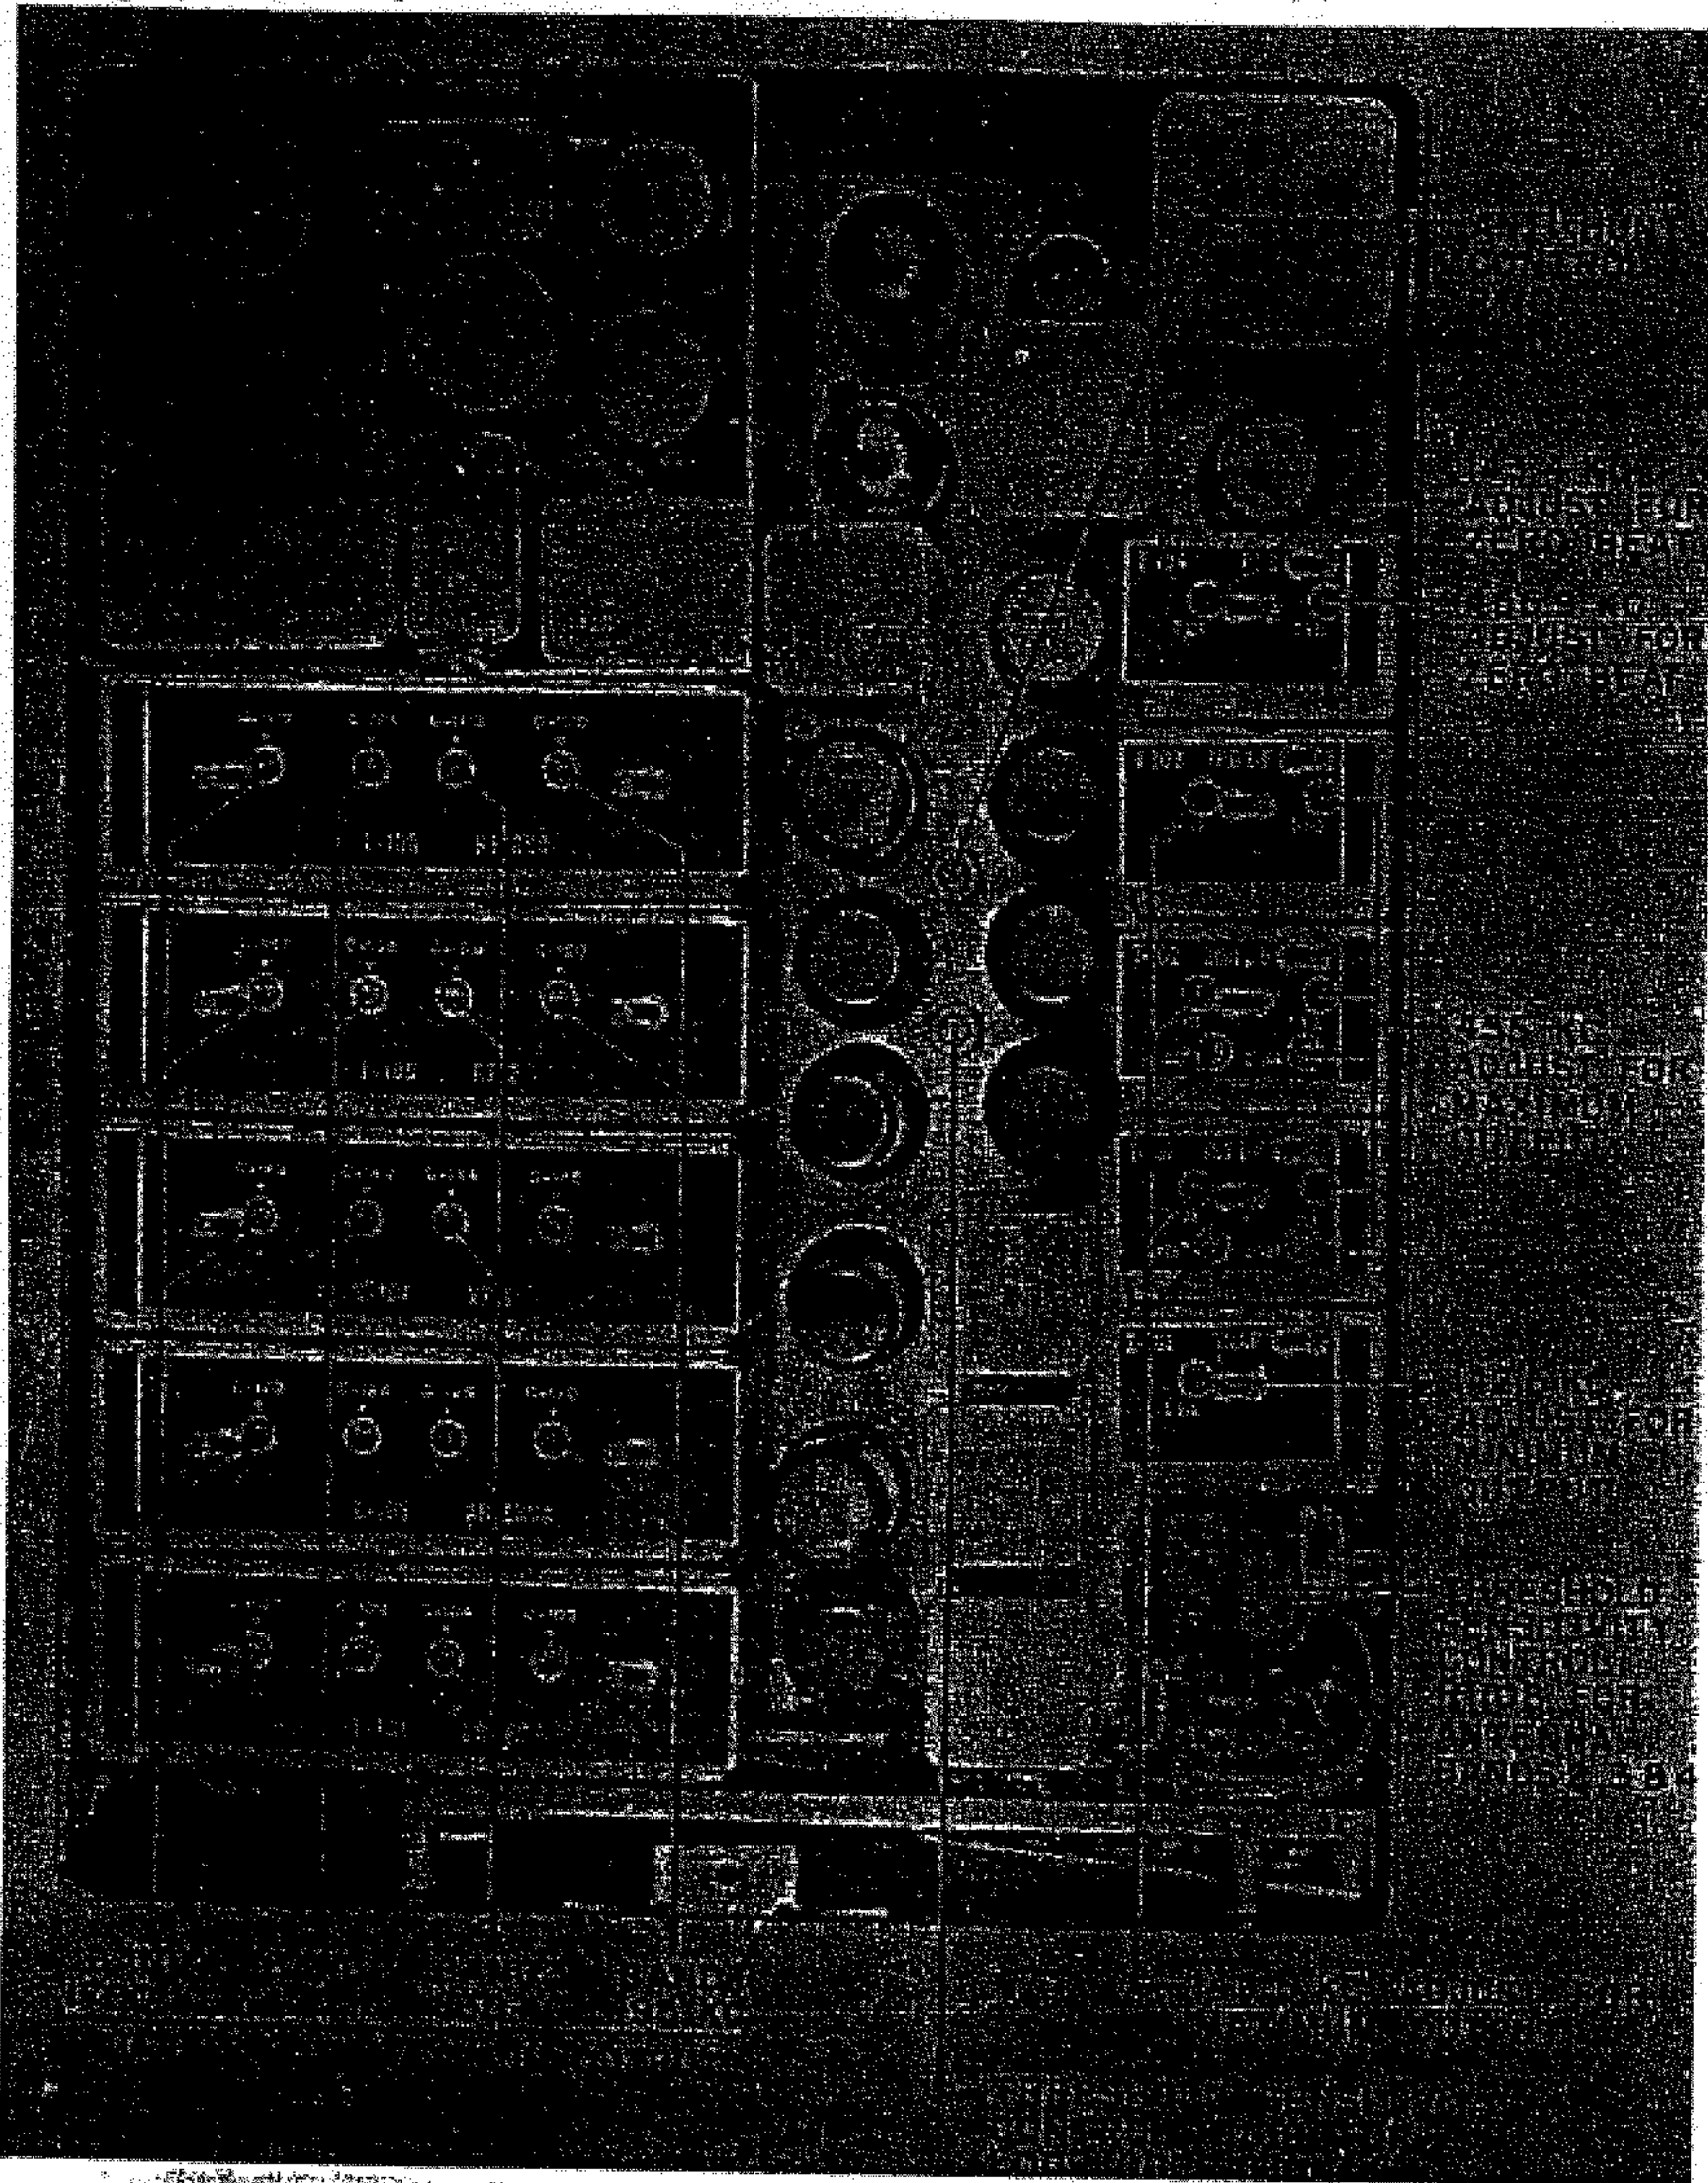
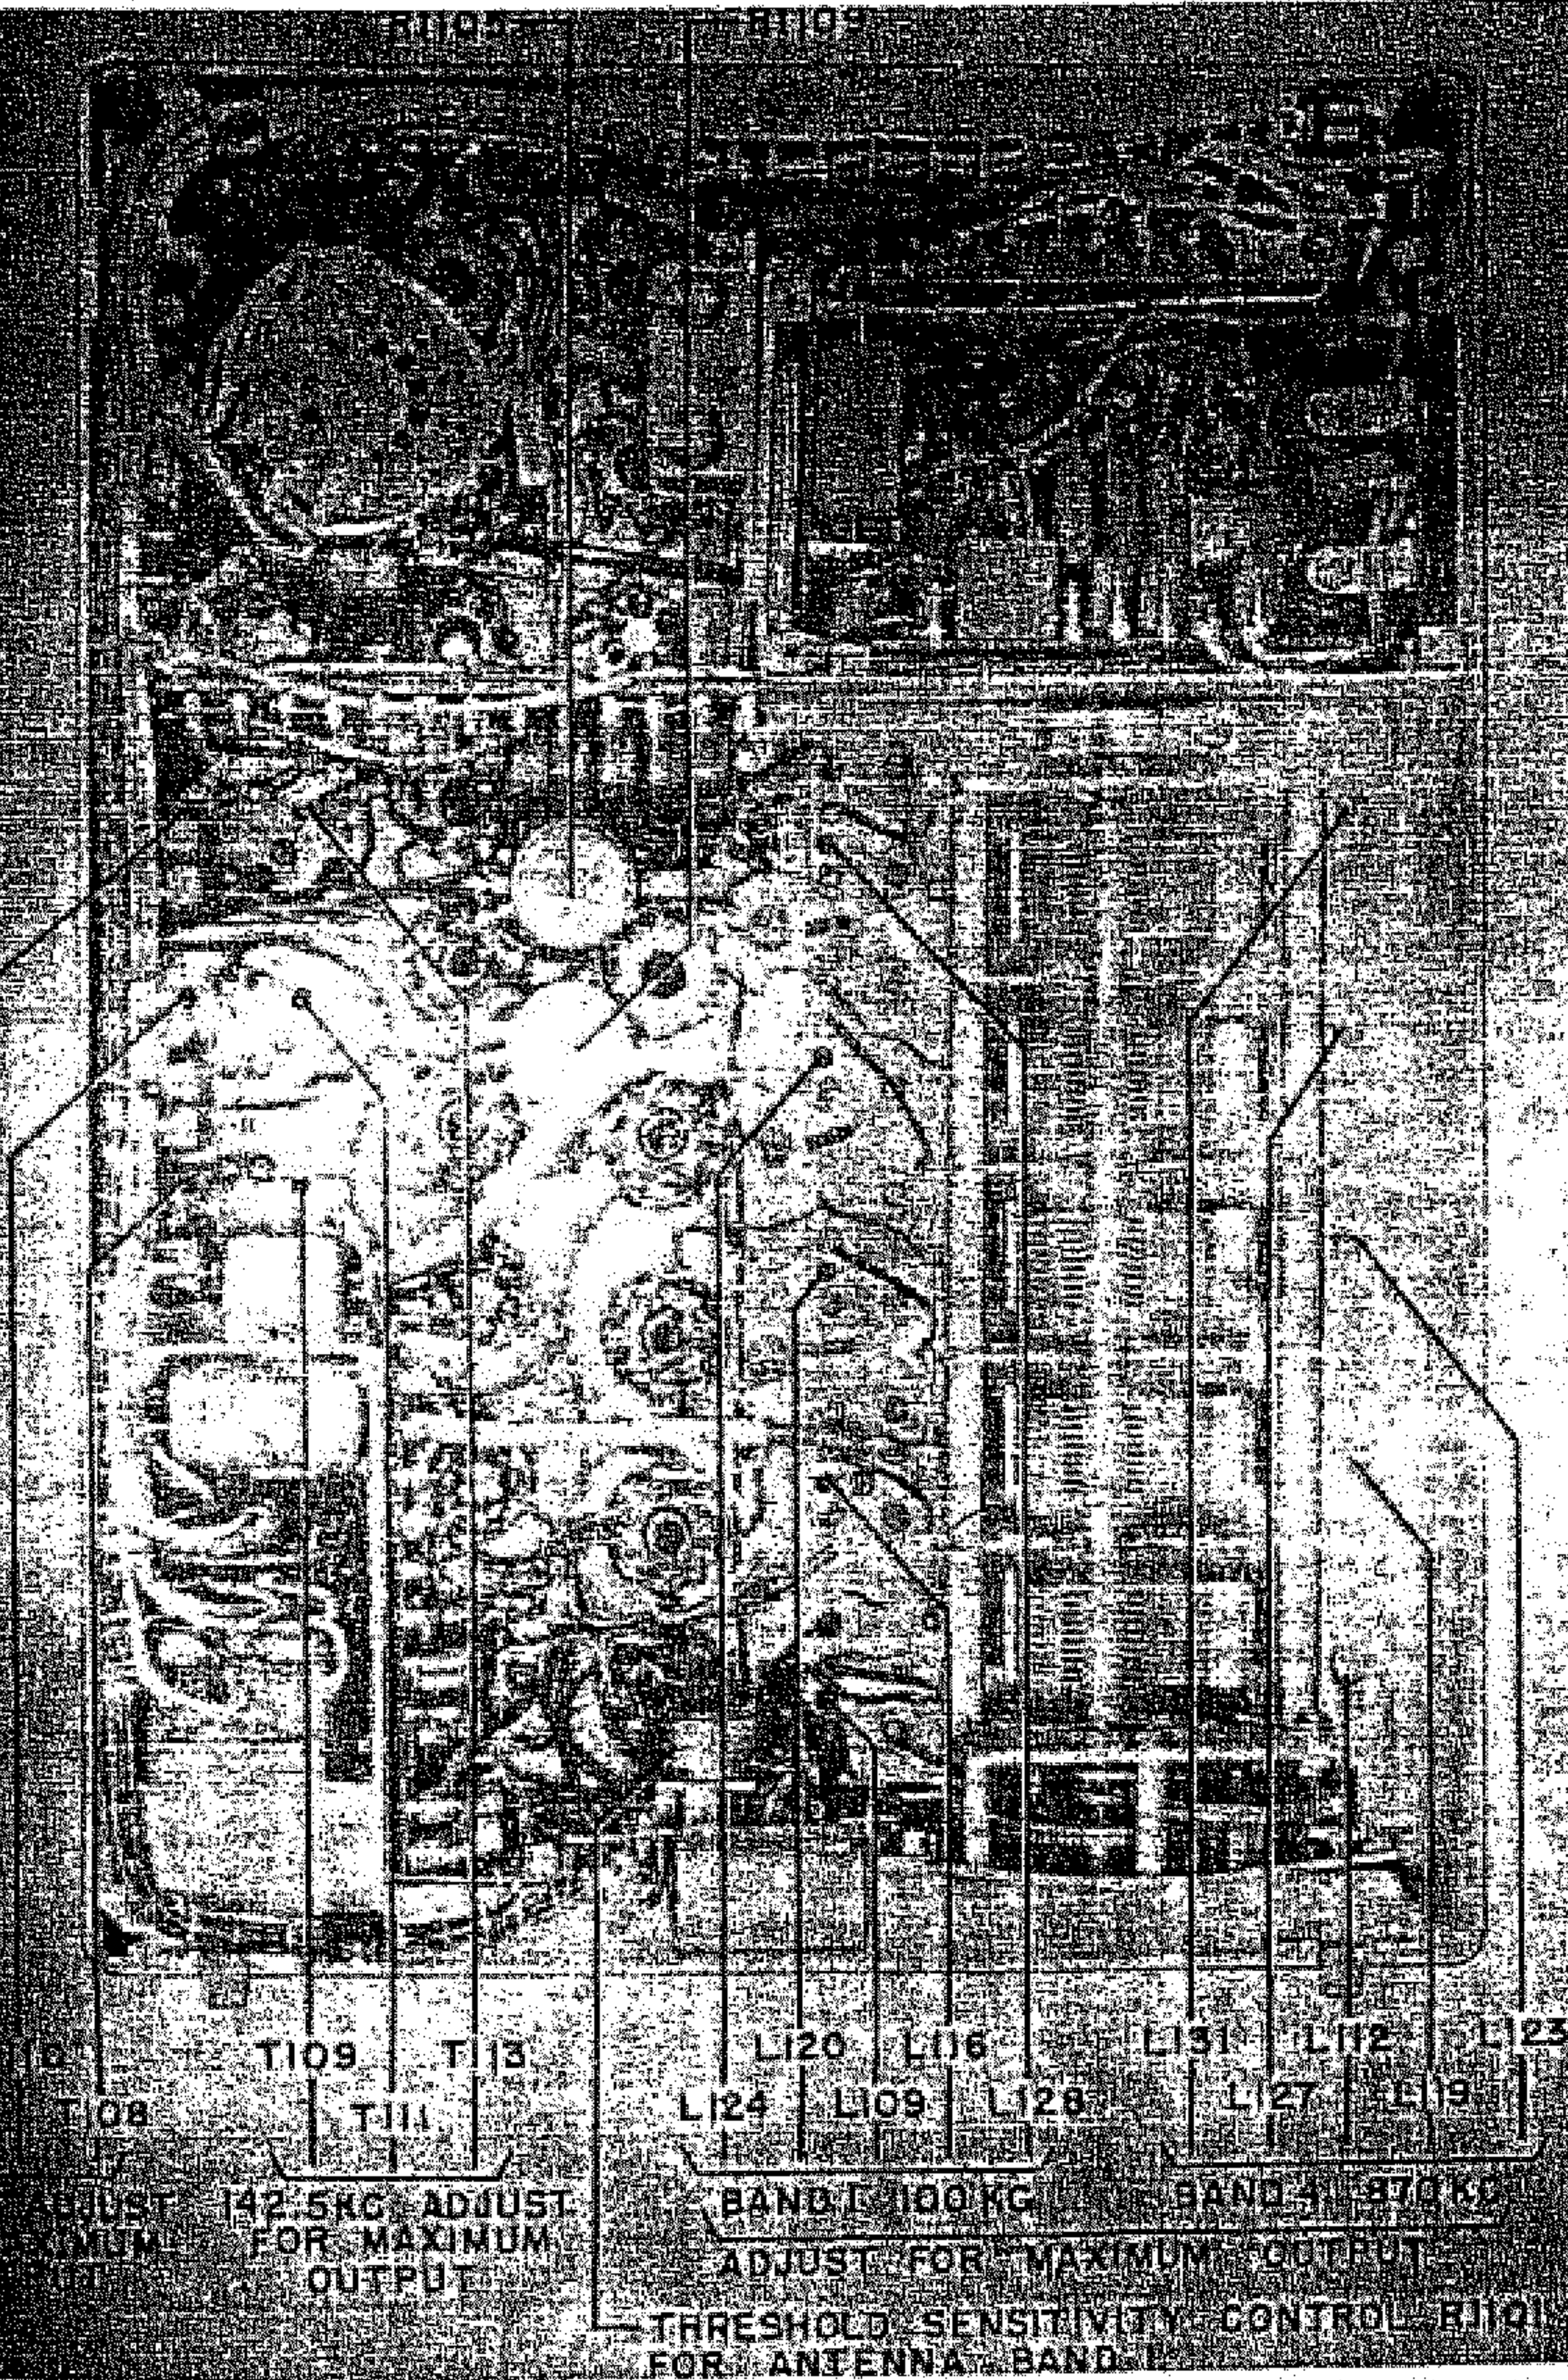

Figure 5-27. Radio Compass Unit R-101A/ARN-6, Top View, Adjustments
Figure 5-30. Radio Compass Unit R-101A/ARN-6, Bottom View, Adjustments
(1) FOR RADIO COMPASS UNIT R-101A/ARN-6.—On band one (100-200 kc), the "ANT." and "COMP-ADF." function sensitivity control is R-1101 and it is reached through a hole (having a removable cover) in the front of the receiver (see figure 5-30). On bands two, three, and four (200-1750 kc), the "ANT." and "COMP-ADF." function threshold sensitivity control is R-1108 and it is reached through a hole (having removable cover) in the side of the receiver (see figure 5-27). The "LOOP" function sensitivity control for all bands is R-1109 and is accessible by removal of the top cover of the receiver (see figure 5-27). The proper adjustment of these controls is that which gives 35 milliwatts of noise into a standard load, at the noisiest point, when the "AUDIO" control is at maximum. To adjust these threshold controls, proceed as follows:
(d) With the receiver tuned to the noisiest point, loosen the shaft locknut and adjust R-1101 (see figure 5-30) so that the noise level is 35 milliwatts. Recheck the range of band one (100-200 kc). Tighten the locknut.